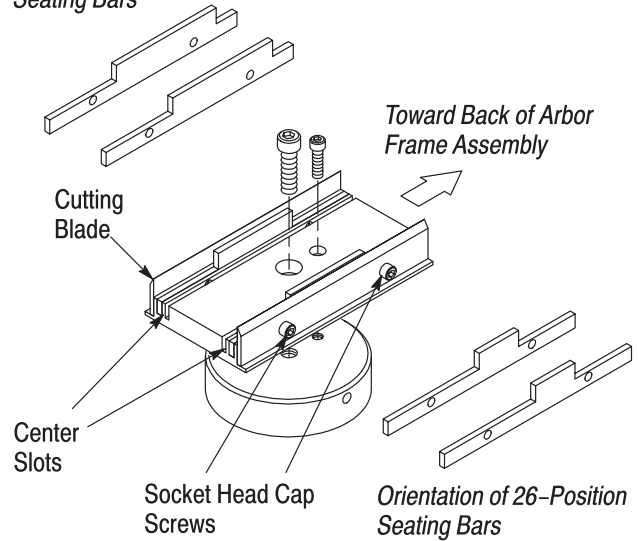

Figure 3
4. Install the proper seating bars for the application as shown in Figure 3.